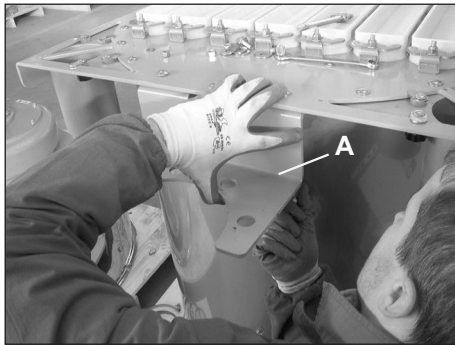

Fig. 2
- 3) Fix the support A to the elements-holder plate as indicated in Fig.2 removing the 2 screws in the plate.